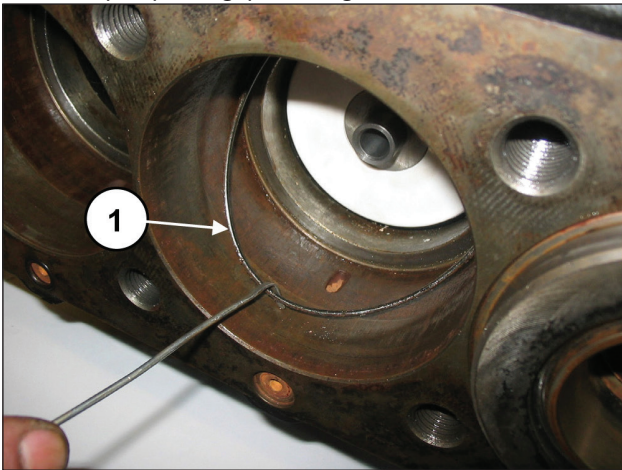

Fig. 125
Remove the seal support bottom O-ring should it remain inside the pump casing (pos. ①, Fig. 125).